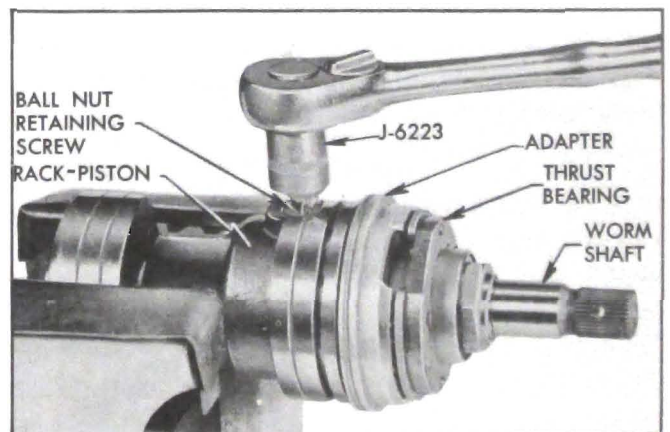

Figure 8-25—Removing Ball Nut Retaining Screw
1. Remove piston rings from rack-piston. Remove ball nut retaining screw using Screw Adapter J 6223 and slide the ball nut and worm assembly out of rack-piston with ball nut retaining screw hole down to prevent ball return guides from falling out and losing balls. See Figure 8-25.